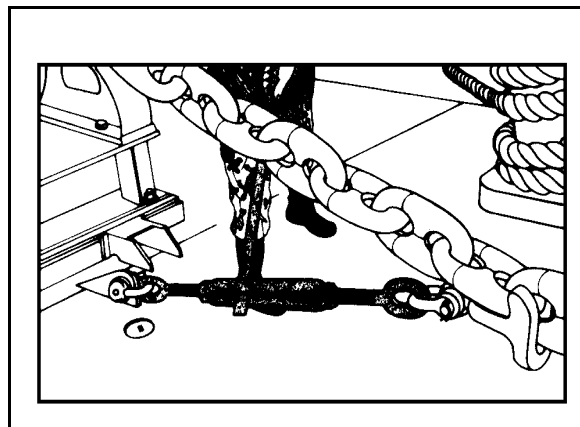

Figure 21-16. Slacking Off Chain Stopper
- Slack off anchor chain stopper (Figure 21-16).